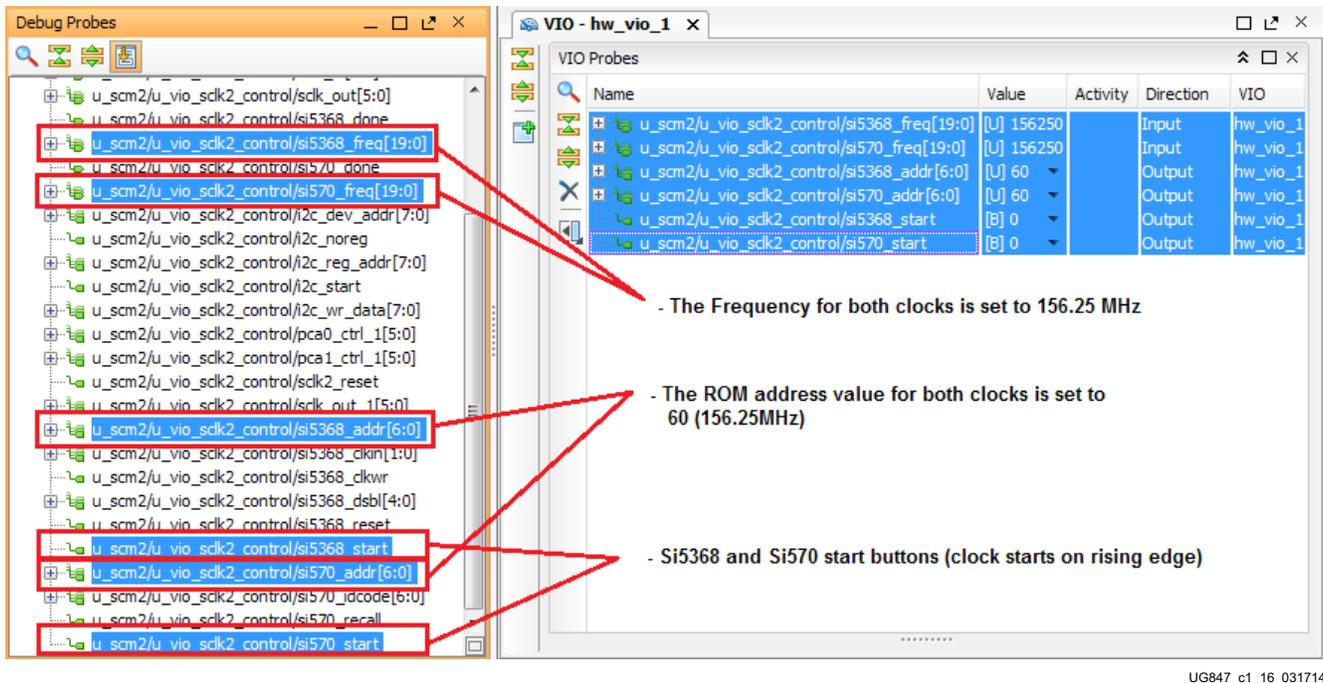

Figure 1-16: SuperClock-2 Module VIO Core
- To view the SuperClock 2 settings in the VIO core, select the probe signal from the Debug Probes window and drag it to the VIO window. For example, the frequencies, ROM addresses, and start signals are selected from Figure 1-16.